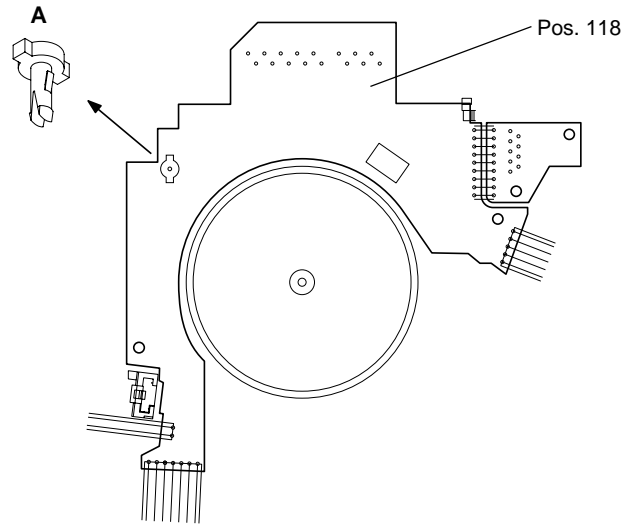

Fig. 20
- Retirer le verrou plastique A (Fig. 20) et retirer le C.I. capteurs de mécanique.
- Lift off the tape deck sensor panel with the expanding arbor A (Fig. 20) and take out the circuit boards.